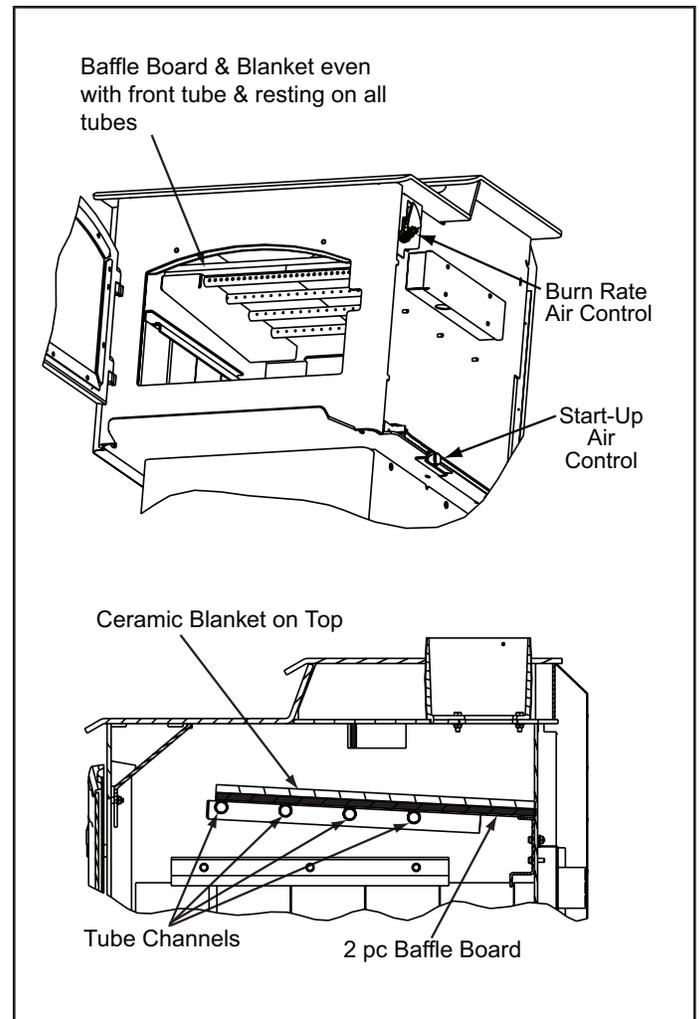

Figure 13.1
1. Confirm the baffle and ceramic blanket are correctly positioned. See **page 12** for detailed diagrams. They should be even with the front tube and resting on all tubes. **Figure 13.1.**